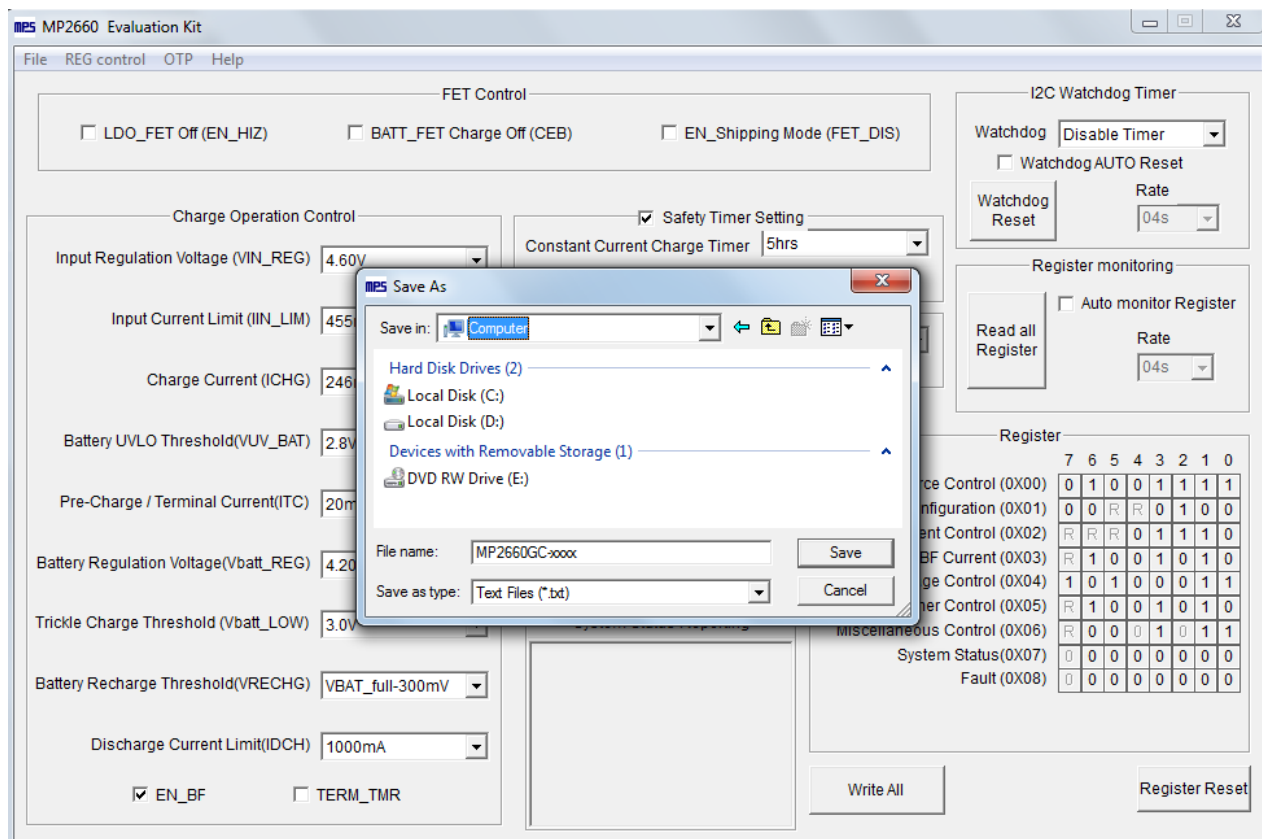

Figure 11: Various Export Locations Available
- Find a location for the exported file and click “Save.” Your configurations will be saved in a text file (see Figure 11).